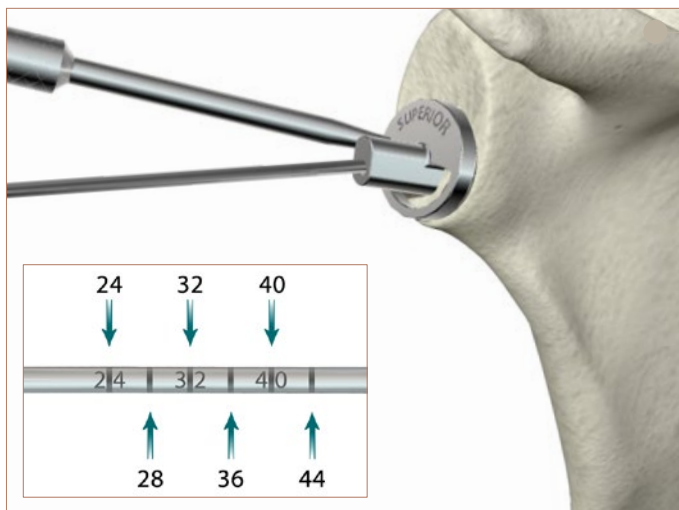

Figure 22
1. With the calibrated 3.2mm Pilot Wire in place, read the corresponding depth marking on the Pilot Wire [Figure 22 inset] relative to the face of the Glenoid Baseplate Centering Guide [Figure 22].